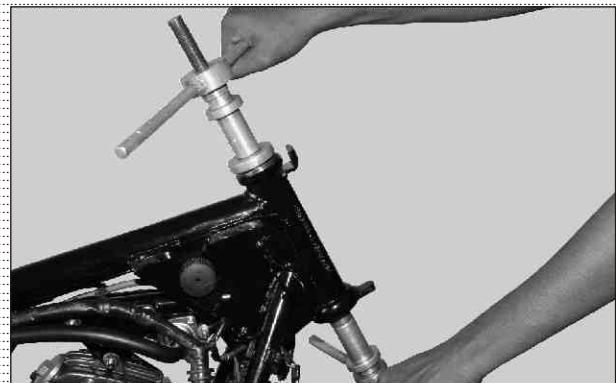

Fig. 6.67
- Assemble cup bottom and race steering inner by using a special tool. (Fig. 6.67)